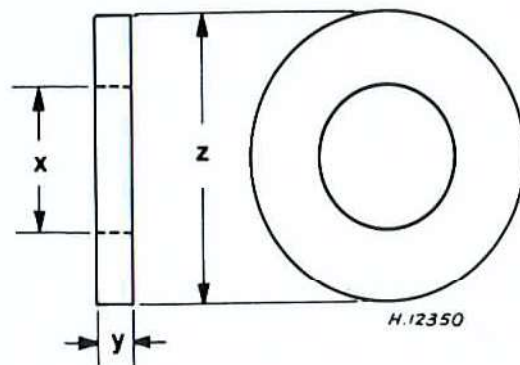

Fig. 14.9 Driveshaft fitting special washer (Sec 10)
- 2 Insert the driveshaft through the swivel hub, but do not fit the split collar. Obtain a plain washer of the dimensions shown in the accompanying figure (Fig. 14.9). If necessary, make the washer from mild steel.